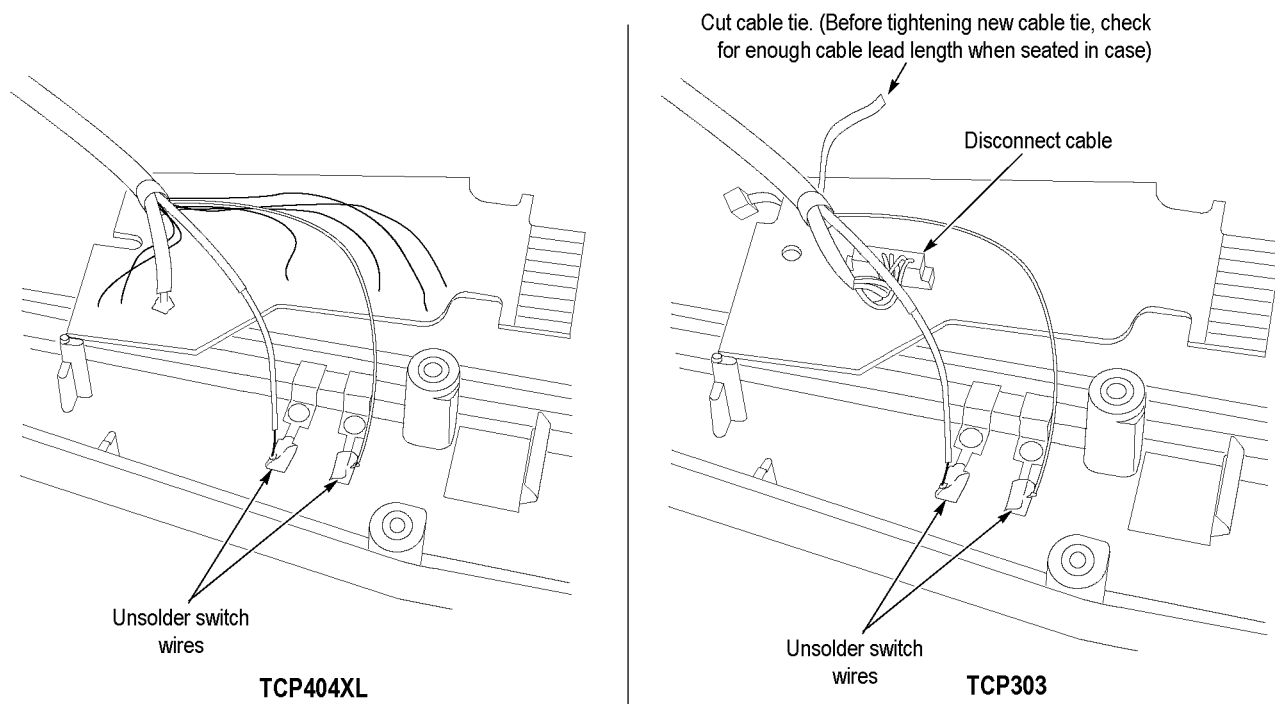

Figure 31: Removing the circuit board and cable
9. To remove the circuit board, cut the cable tie that secures the cable to the board, and then disconnect the cable from the board. (See Figure 31 on page 73.) When reassembling the probe, do not tighten the new cable tie until you seat the board and cable in the probe case, to allow enough cable length for a proper fit.